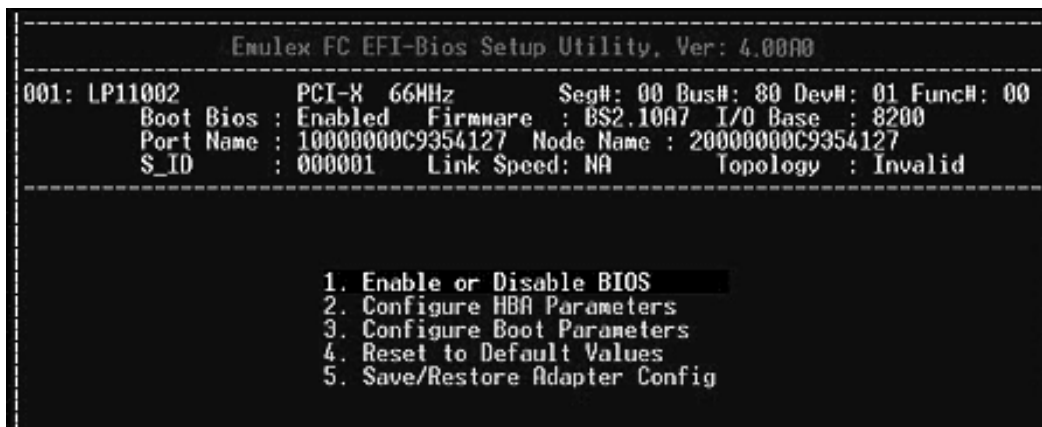
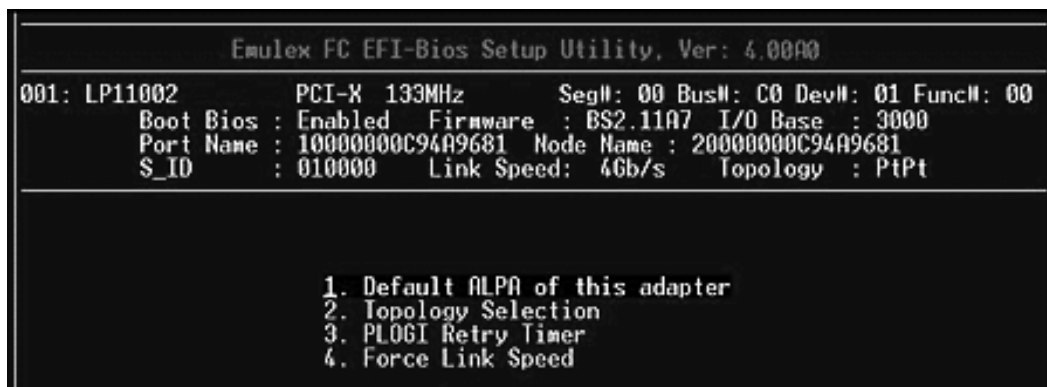

Figure 26: EFI-BIOS Setup Utility menu
Figure 29: Adapter Configuration menu
1. On the Main EFI-Bios Utility menu, select **1. Setup Utility** and press **<Enter>**. The EFI-BIOS Setup Utility menu is displayed (Figure 26).
On the EFI-BIOS Setup Utility menu (Figure 26) select **2. Configure HBA Parameters** and press **<Enter>**. The Adapter Configuration (Figure 29) is displayed.
To configure boot parameters, on the EFI-BIOS Setup Utility menu (Figure 26) select **3. Configure Boot Parameters** and press **<Enter>**. The menu shown in Figure 34 is displayed.